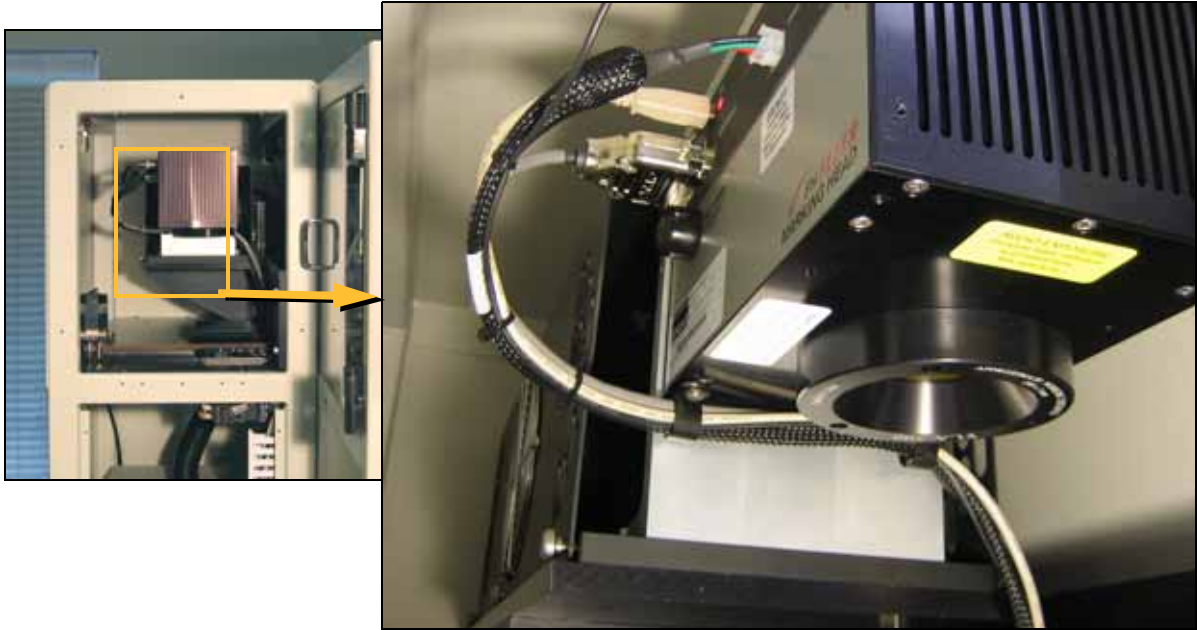

Figure 4-30: Left end of the laser housing with lens. The Option Bay left side panels have been removed.
- 1c. Remove the upper left Option Bay panel (1/8 in. Hex Key) to access the laser housing. See Figure 4-30. Remove Option Bay panels as needed for cleaning the laser marking system.